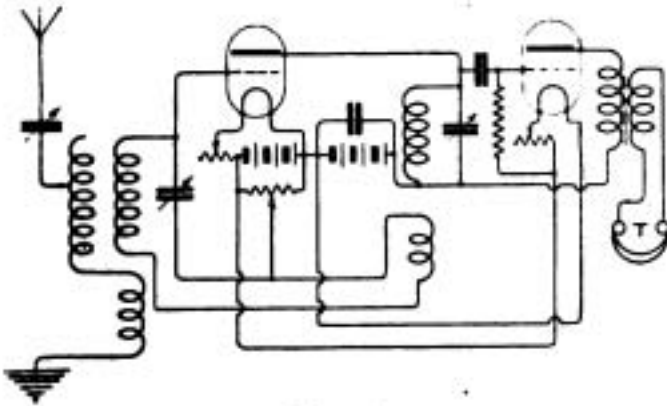

Fig. 1.
(2) Detailed information for frame aeriels is given in the issues for May 29th and June 12th of last year.
(3) Yes; it will be necessary to advise the P.M.G. of the proposed aerial.
(4) An earth lead is not necessary with a frame aerial.
X.Y.Z. (Bournemouth).—Your circuit is rather complex, having three tuned circuits, and we do not advise its use. Fig. 1 gives the connection of an additional valve for rectifying.